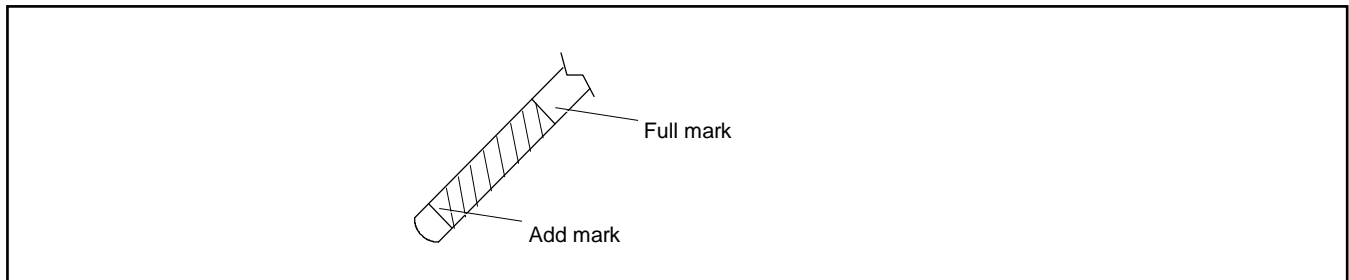

Figure 21 Oil Dipstick
10. Check engine oil level, making sure that the level lies between the Full and Add marks on the dipstick. See Figure 21.